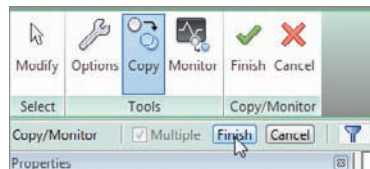

FIGURE 20.7 The Finish button on the Options bar
7. When you're finished, click Finish on the Options bar, as shown in Figure 20.7.